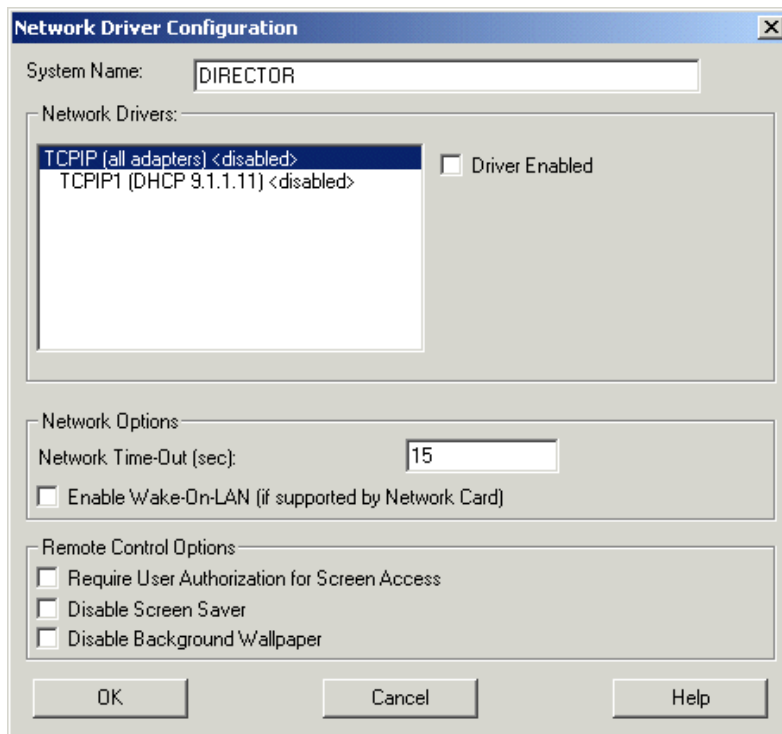

Figure 4-10 Network Drive Configuration window
12. From the Ready to Install the Program window, click **Install**. You will see a window similar to Figure 4-10.